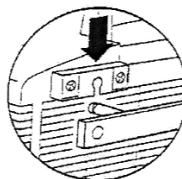

FIG. 9
3. Hang the outdoor unit. FIG 9